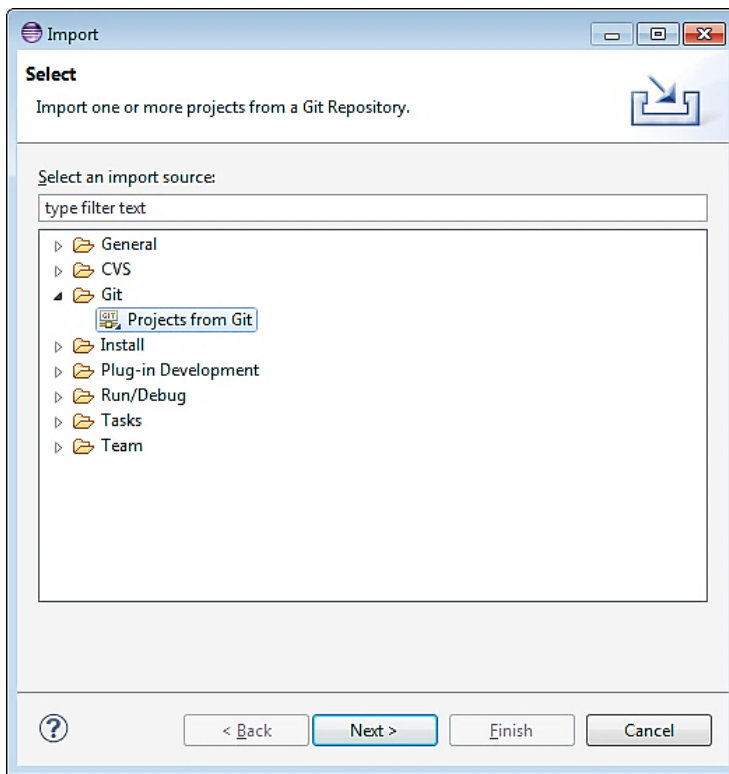

Figure 19: Checking Out OpenEIS with Eclipse from GitHub (continued)
2. Select Git -> Projects from Git, then click the Next button (Figure 19)